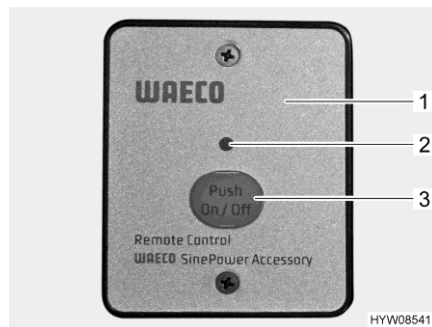

Fig. 104 External switch (AC converter)
The external switch (Fig. 104,1) is installed in a wall-mounted cupboard on the left side.
- Press "On/Off" button (Fig. 104,3). The LED (Fig. 104,2) is on.
- Press "On/Off" button (Fig. 104,3). The LED (Fig. 104,2) goes out.